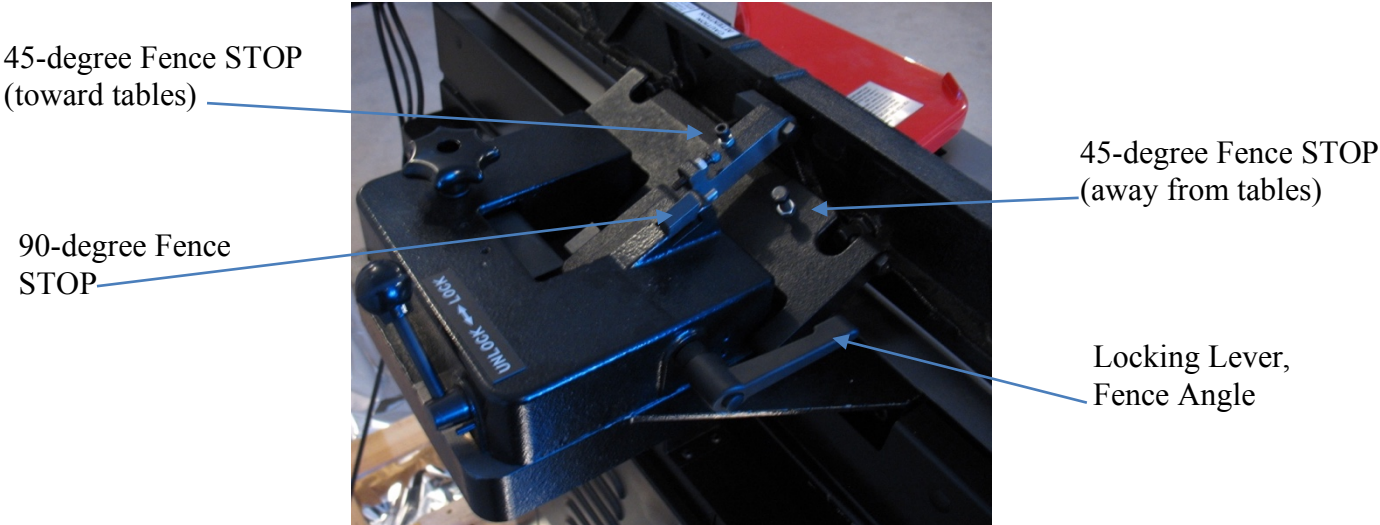

Figure 10: Fence Angle Adjustment Components
4. To adjust the fence perpendicular or angled to the bed, loosen the Locking Lever (Fig. 10) and adjust the fence to the desired position.
NOTE: The 90-degree position has an included reference STOP (Fig. 10). To adjust, flip the stop into position, loosen the lock nut and rotate the adjusting screw until the fence is at 90 degrees to the table. Tighten the lock nut and flip the stop back if making other angled adjustments. To check the 90 degree setting, place a square on the outfeed table and against the fence.
NOTE: The two 45 degree positions include two reference STOPS (Fig. 10). To adjust, loosen the lock nut and rotate the adjusting screw until the fence is at 45 degrees to the table, angled in or out.